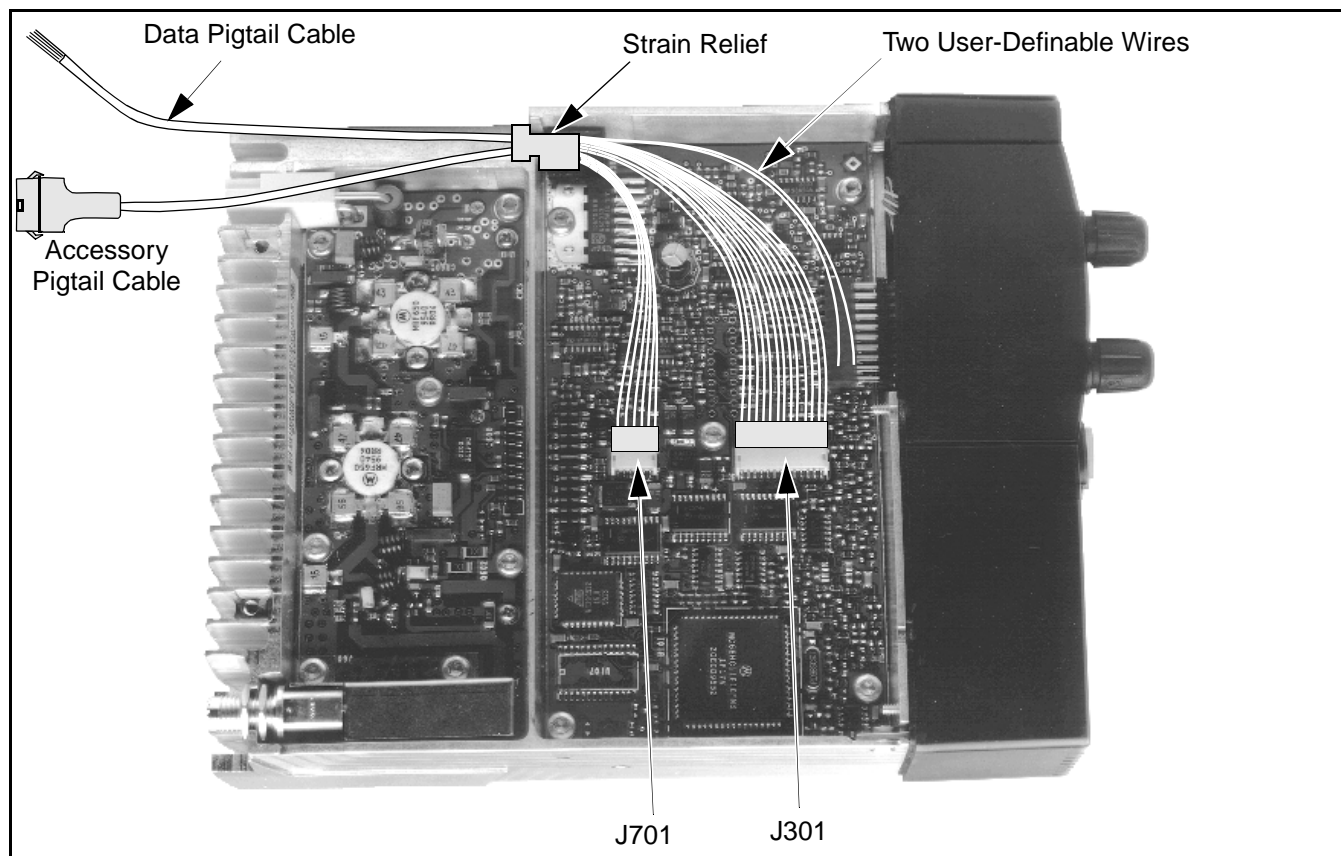

Figure 2-6 Data Cable Installation (-001 Cable Shown)
2. Refer to Figure 2-6 and plug the 13-pin connector of the data cable into J301. If also installing the accessory cable, plug the 7-pin connector into J701. Refer to Section 2.4 for more accessory cable installation information.
5. Position the strain relief grommet of the accessory/ data cable in the external speaker jack slot of the chassis as shown in Figure 2-6 and reinstall the bottom cover.